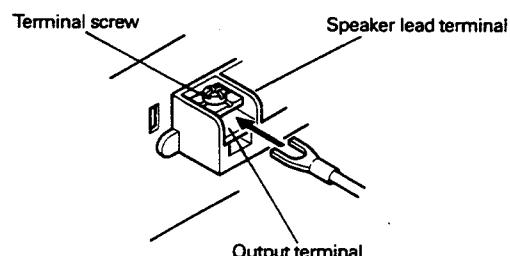

Fig. 7
- Insert each speaker lead terminal into an output terminal according to the selected mode. (Fig. 7)